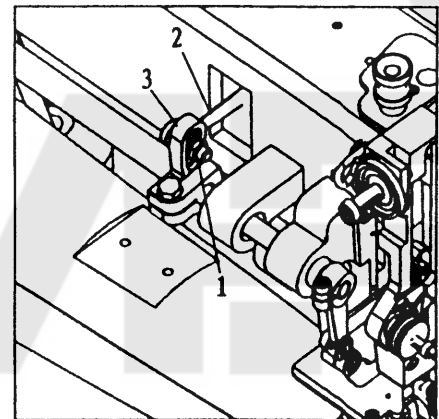

Fig.7
11. ADJUSTMENT OF WALKING FOOT AND PRESSER FOOT (Fig.7)